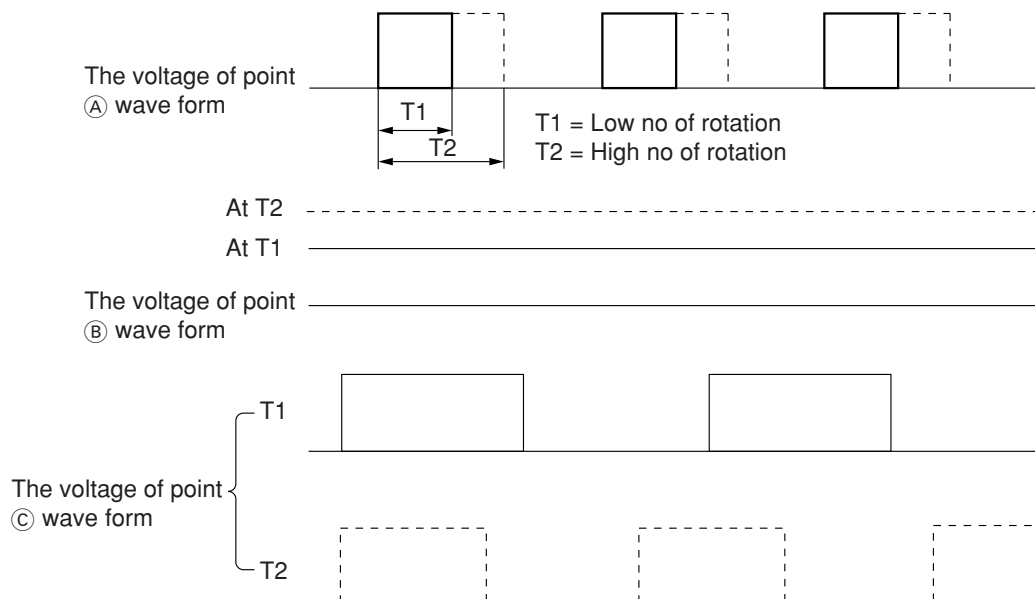

Fig. 6-2
- The 15.7 kHz PWM pulse shown in Fig. 6-2 from the microcomputer pin ⑤④ is output to point ①. The width of this pulse changes with instruction number of rotations.